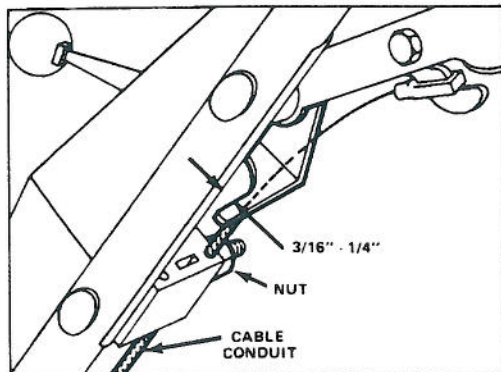

Figure 24
2. CHECK ADJUSTMENT (Fig. 24) — Move control bar toward handle until slack in wire is removed. Gap between brake lever and handle must be  $3/16''$ - $1/4''$ . See step 3 for adjustment.
3. ADJUST CABLE CONDUIT — Loosen nut on cable bracket (Fig. 24). Insert  $3/16''$ - $1/4''$  object between brake lever and handle. Pull down on cable conduit until all slack is removed from wire. Then tighten nut.